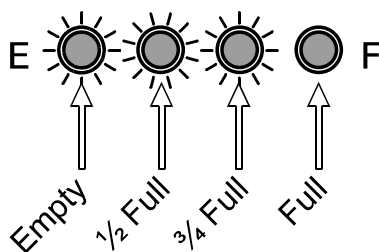

Figure 2-2 Battery level Indicator
3. While operating the AC product you can check the level of the battery as detailed in Figure 2-2, “Battery level Indicator” on page 2–6. This will tell you the approximate charge level of the battery and whether you are approaching the point when recharging is required.